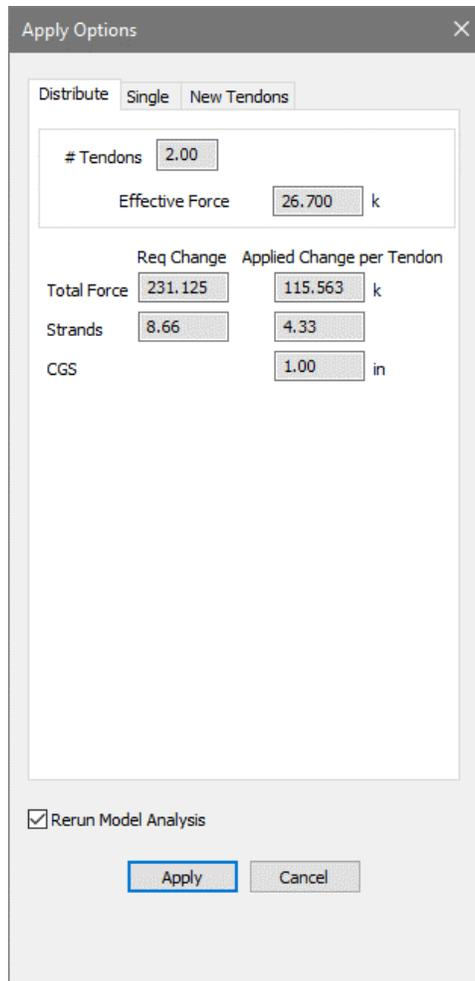

Figure 8-63
- In the above window we can see the *Current and Estimated values* for the tendon design. The current value is based on the tendons we selected and the estimated value is based on the changes the optimizer proposes. Click the *Apply to Model* button. This will open the window shown in **FIGURE 8-63**.